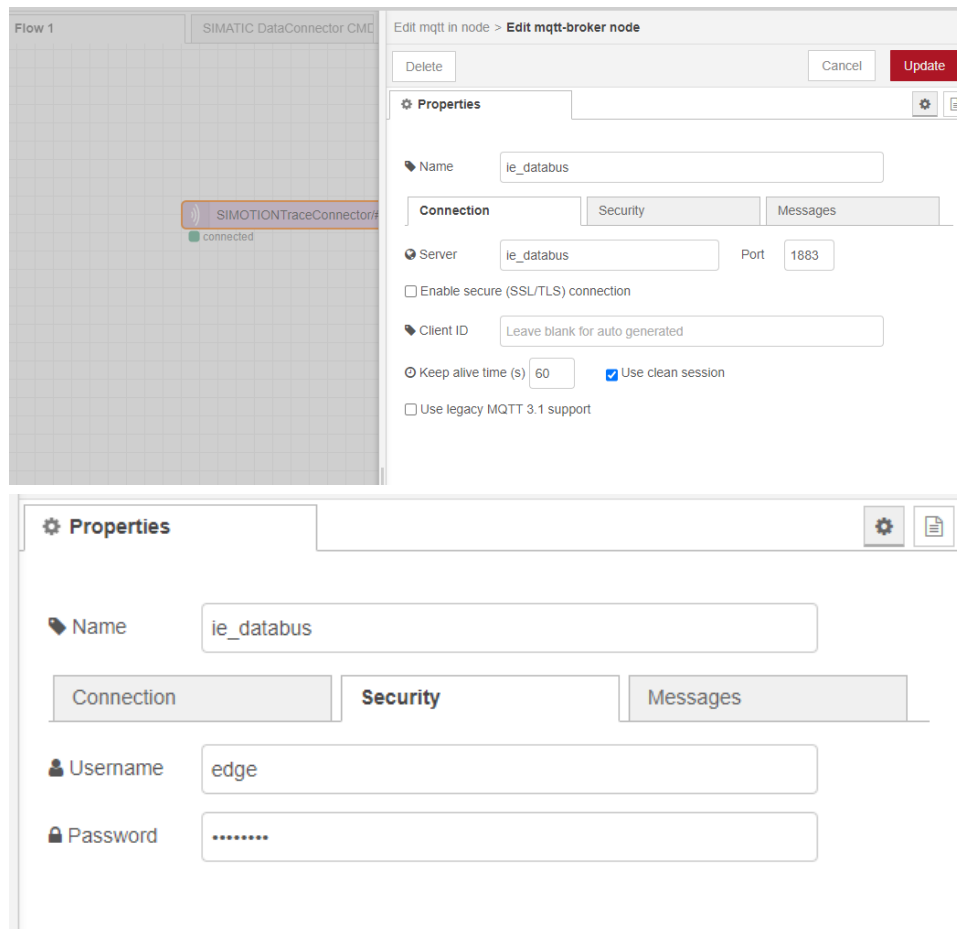

Figure 26 Server connection
3. Connect node to server by clicking on “Edit” icon (Figure 26)